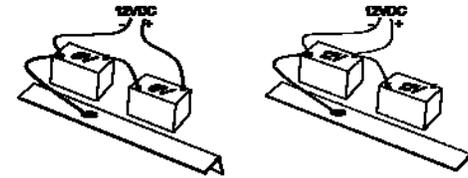

Figure 7-2. Connecting to 6 volt or 12 volt batteries.
- Make sure you are connecting to 12 volts and not 24 volts. See Figure 7-2.